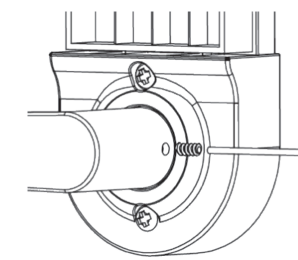

fig. 5
3.2 Use faceplate as a pattern for mortise and pilot holes. The faceplate should fit flush (see fig. 5).
2. Set up inside Lever: Put Lever on Lever Spindle then use Allen Wrench to put Allen Screw (see fig. 5). Use Allen Wrench to take Allen Screw off then pull out Lever when you want to remove Lever.